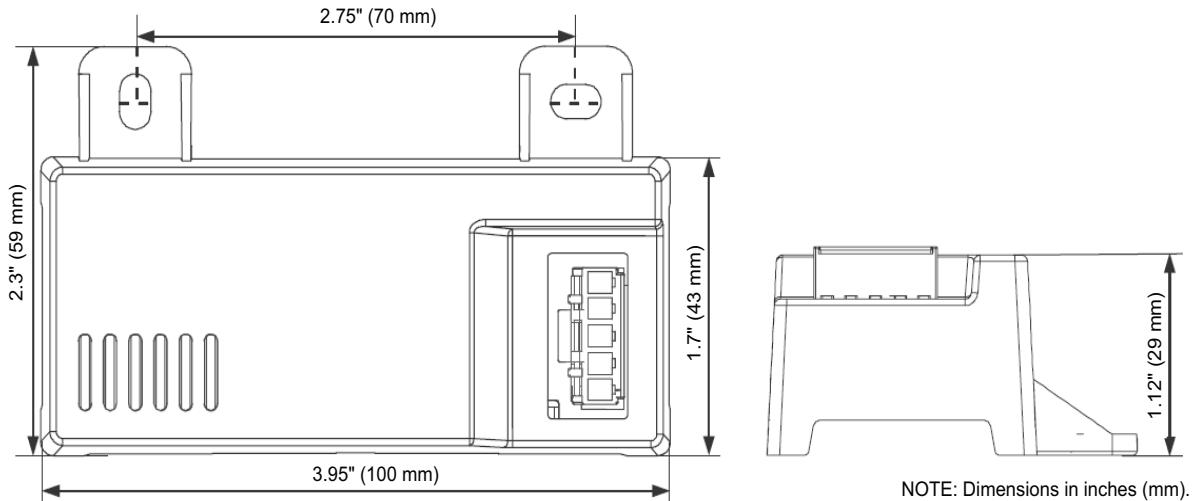
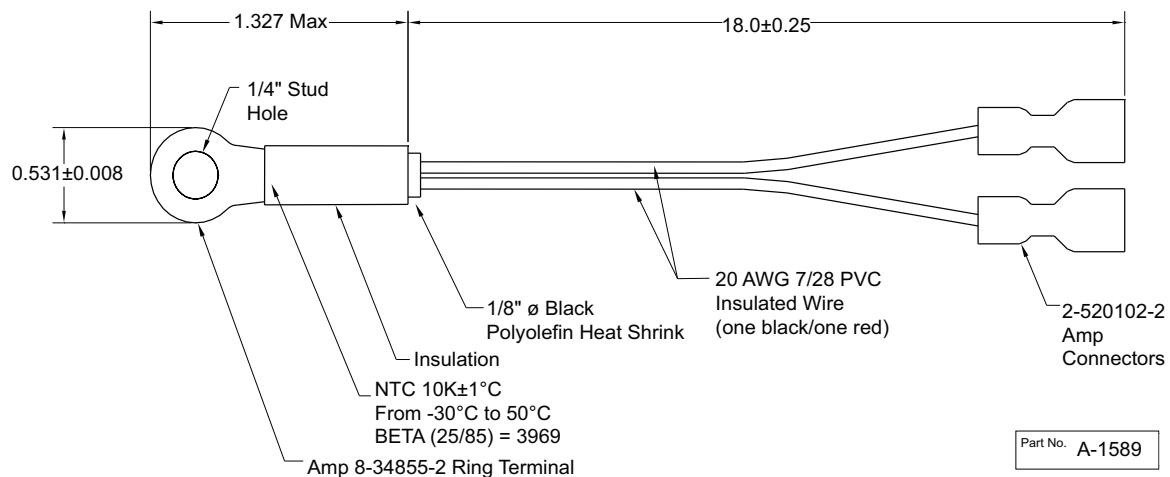
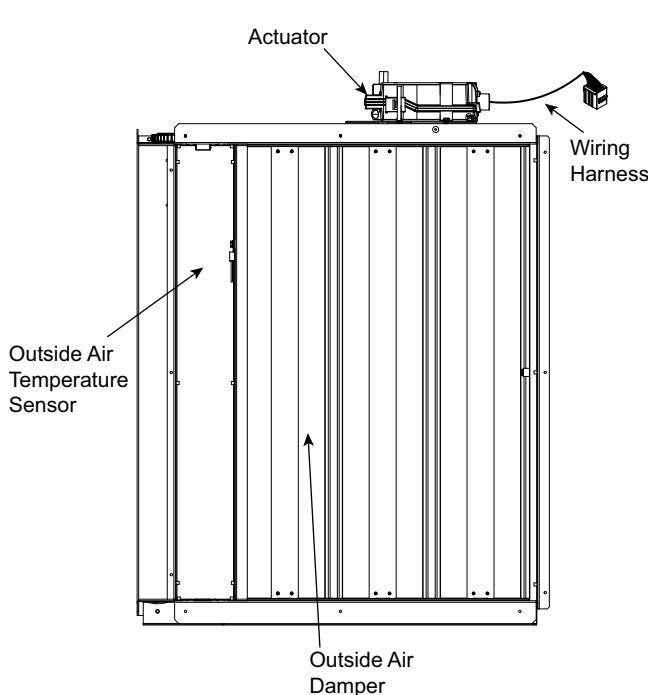

Fig. 75 — HH57LW001 Dimensional, Connection and Switching Information
Fig. 76 — HH79NZ039 Dry Bulb and Mixed Air Sensor Wiring
Fig. 77 — EconomizerONE Component Locations (CRECOMZR108A00 Shown)
When using the HH57LW001 enthalpy sensor (see Fig. 75) for outside air changeover, the existing HH79NZ039 dry bulb sensor (see Fig. 76) must be removed. The enthalpy sensor will be mounted in the same location as the dry bulb sensor (see Fig. 77). When the enthalpy sensor's OA (Outside Air) temperature, enthalpy, and dew point are below their respective setpoints, the outside air can be used for free cooling. When any of these are above the setpoint, free cooling will not be available. Enthalpy setpoints are configurable and create an enthalpy boundary according to the user's input. For additional details, see Fig. 78-79 and Table 30.
The optional enthalpy control sensor (P/N: HH57LW001) communicates with the POL224 economizer controller using the 5-wire harness, 48TC005213. The HH57LW001 sensor can be used as a single outside air enthalpy, a differential return enthalpy, or a differential return temperature sensor. Refer to the base unit control wiring diagrams found earlier in this book to wire the HH57LW001 enthalpy sensor for each option. Use Fig. 75 and Table 32 on page 65 to locate the wiring terminals for each enthalpy control sensor.
Economizers are shipped standard with an HH79NZ039 outside air dry bulb sensor (see Fig. 76). System default setting (high temp limit) is 63°F (17°C) and has a range of 48°F to 80°F (9°C to 27°C). Sensor is factory installed on economizer.
If installing the optional HH57LW001 enthalpy sensor, the HH79NZ039 dry bulb outside air sensor must first be removed. Wire sensor to harness 48TC005213 and the (5) wires from the harness to the EconomizerONE harness in the return air chamber. Harness 48TC005213 has a 5-pin plug that connects directly to the HH57LW001 enthalpy sensor. Refer to the base unit control wiring diagrams earlier in this book for wiring connections. Refer to Fig. 75 and Table 32.